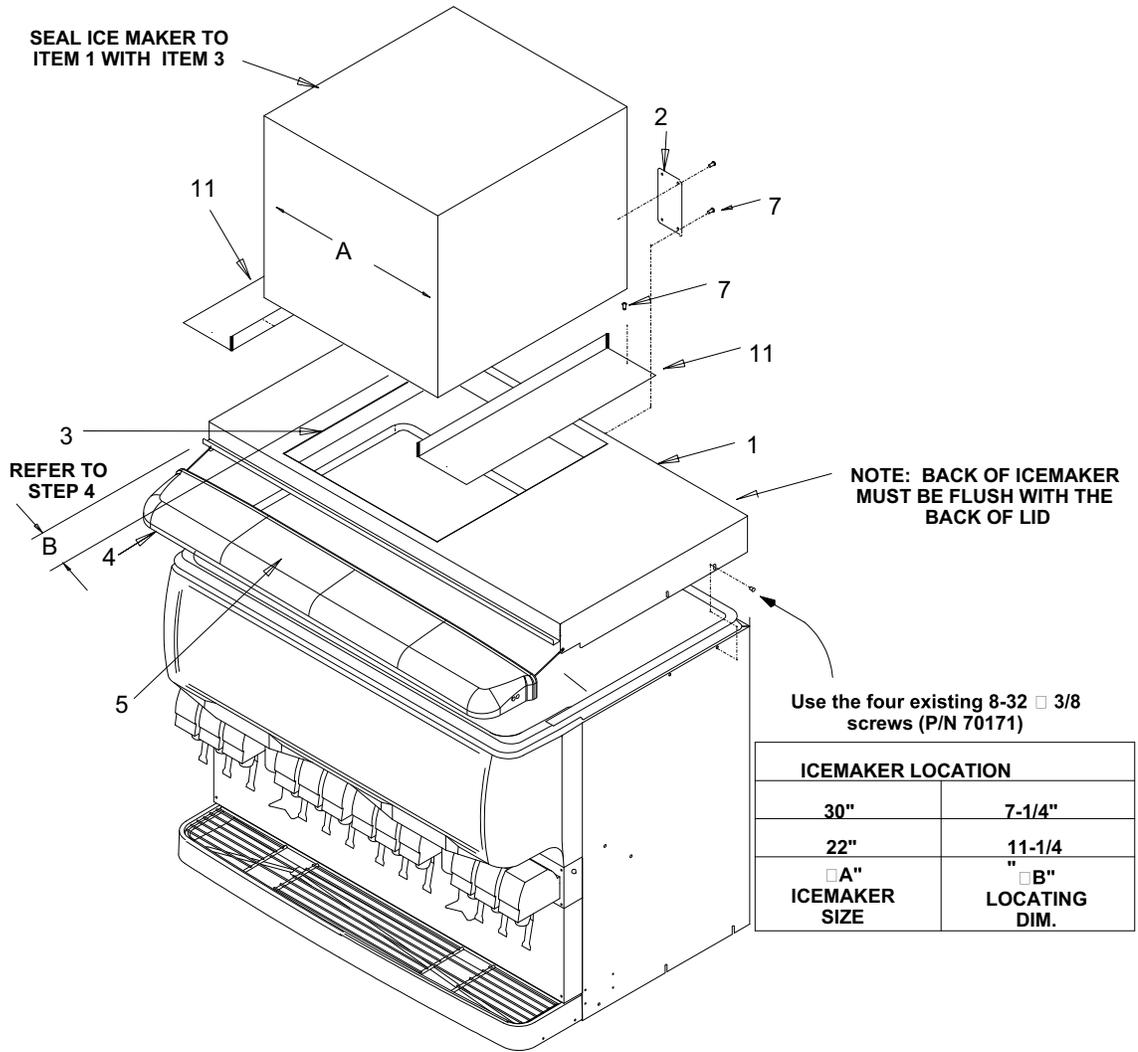

Figure 1. Dispenser
4. Seal the ice maker to the top of the dispenser after determining the correct location for the ice maker (see Figure 1).
7. For 22" wide Ice makers, locate the lid opening covers (2) item 11 as shown in Figure 1. Secure the covers to the adapter lid by drilling .136 diameter holes into the lid. Use the covers as templates to locate the mounting holes. Secure the covers with the # 10 sheet metal screws.
8. Locate the cleaning caution label (item 5) on the manual ice fill cover (item 4) as shown in Figure 1. Place the manual fill cover in position over the flange on the lid assembly and the front access hopper opening.